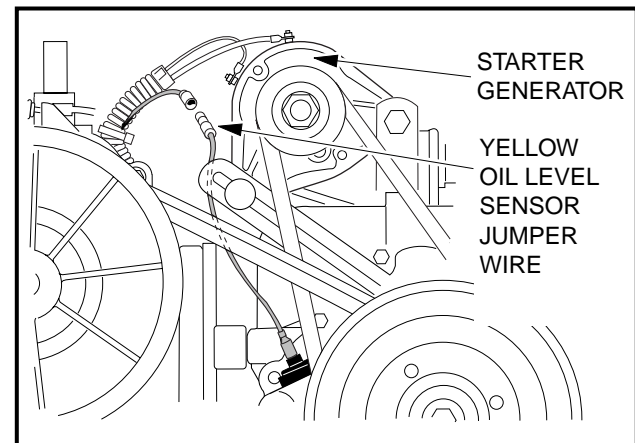

Figure 16-20 Oil Level Sensor Jumper Wire
- 3.13. Disconnect the engine oil level sensor wire (18 gauge yellow) at the bullet connector just to the rear of the starter/generator) (**Figure 16-20, Page 16-10**).